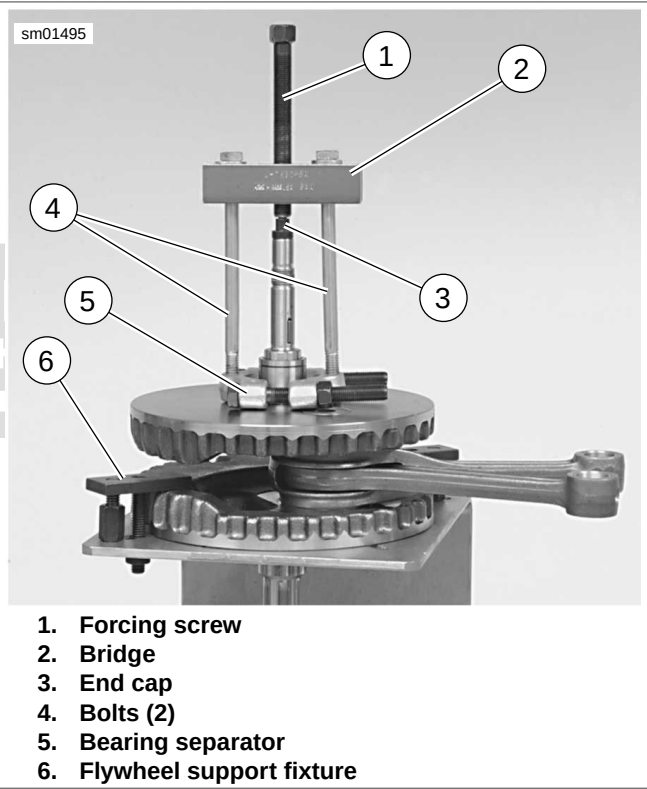

Figure 3-156. Pulling Pinion Shaft Inner Bearing
See Figure 3-156. To remove pinion shaft inner race, use BEARING SEPARATOR (Part No. Snap-on Tools Stock No. CJ950), three items from END CAP (Part No. HD-34902-7), BRIDGE (Part No. J-7830-5) and FORCING SCREW (Part No. J-21686-12), and two bolts. Apply heat to race to aid removal. Four sizes of pinion bearings are available.
- See Figure 3-156. Pull inner race from pinion shaft using BEARING SEPARATOR (Part No. Snap-on Tools Stock No. CJ950), three items from END CAP (Part No. HD-34902-7), BRIDGE (Part No. J-7830-5) and FORCING SCREW (Part No. J-21686-12), and two bolts. Apply heat to race to aid removal.